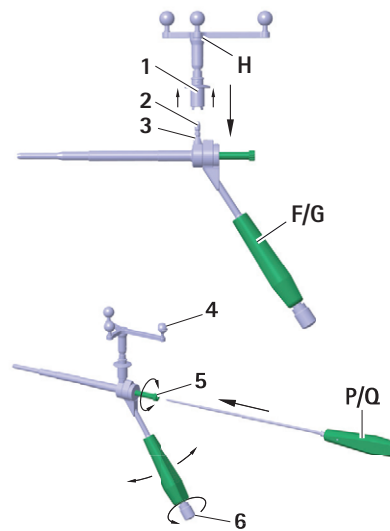

Fig. 2 Mounting the Aesculap star unit on S4C drill guide FW664R/FW665R
- ▶ To ensure that the camera has an unrestricted view of the reflective marker spheres, loosen knob 6 on the S4C handle of the S4C drill guide F/G and rotate Aesculap star unit H to the desired position, see Fig. 2.
- ▶ To ensure that the camera has an unrestricted view of the reflective marker spheres, loosen knob 6 on the handle of the S4C drill guide F/G and rotate Aesculap star unit H to the desired position, see Fig. 2.